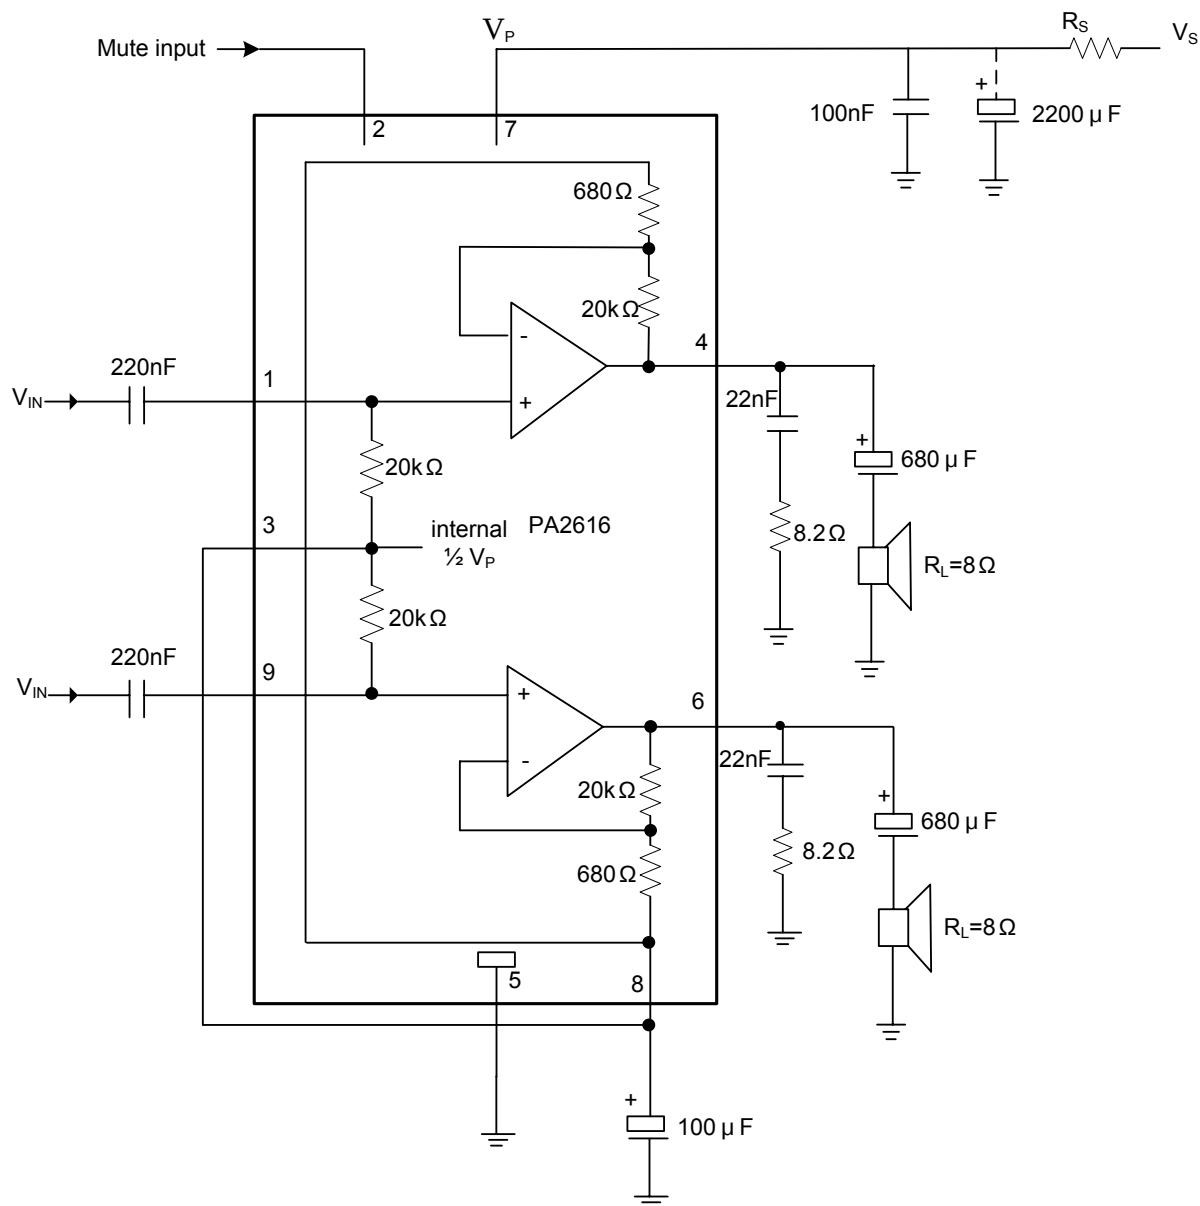

Fig. 2 Test and Application Circuit with Asymmetrical Power Supply
6.  $V_P = 24\text{ V}$ ;  $R_L = 8\text{ }\Omega$ ;  $T_a = 25\text{ }^\circ\text{C}$ ;  $f = 1\text{ kHz}$ ; asymmetrical power supply  $I_{MUTE} < 30\text{ }\mu\text{A}$ . See Fig.2